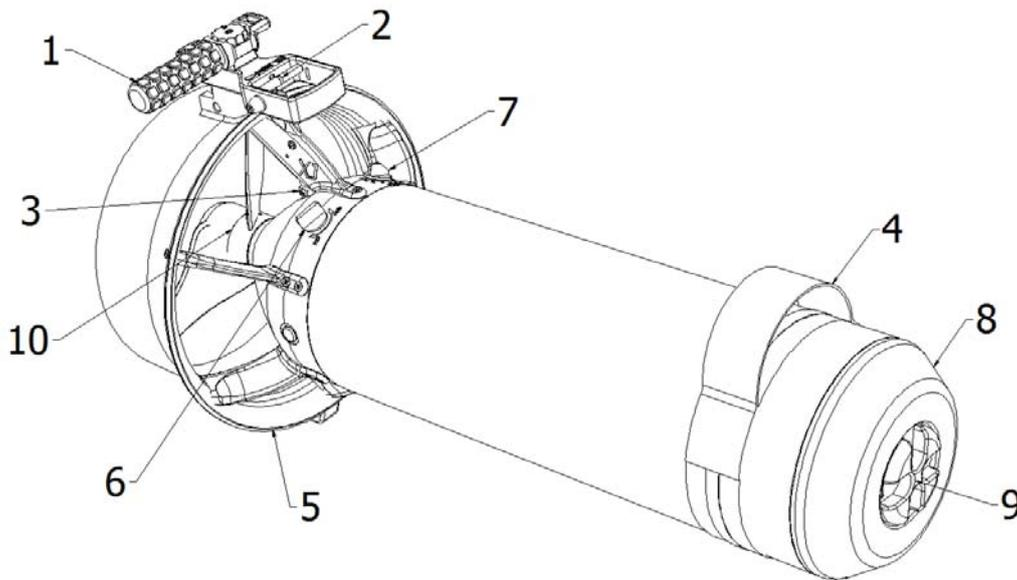

Figure 1
The ADV consists of a perfectly watertight, streamlined, hollow body, see figure 1, inside which the electric motor, rechargeable batteries and speed-reduction gear are housed. On the outside, two manoeuvring handles (1) are found at the rear, one of which has an integrated trigger (2) to control propeller rotation by means of a magnetic reed switch (3). At the front, a handle in synthetic material (4) is used for gripping and carrying the vehicle. The propeller (10) is located at the rear end and is protected by a surrounding circular strip which constitutes the flow conveyor (5). The main switch (6) for turning the power on and off and the speed regulator knob (7) are also found at the rear.
Turn the front hand wheel (9) counter-clockwise. Rotating the hand wheel, the shell (8) (see fig. 1) start to lift. Continue rotating until the shell detaches from the main body. Remove the shell.
5 CORRECT USE (SEE FIG. 1)
Turn the switch (6) (see fig. 1) fully clockwise without forcing it.